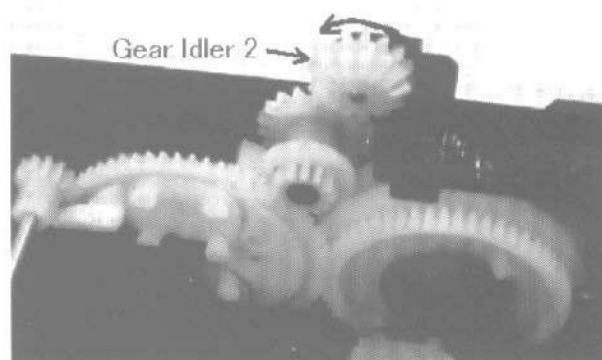

Fig.7
- 1) Turn GEAR IDLER 2(17) anti-clockwise. (See Fig. 7)
- 4) Then, turn GEAR IDLER 2(17) anti-clockwise and take out the second CARRIAGE.